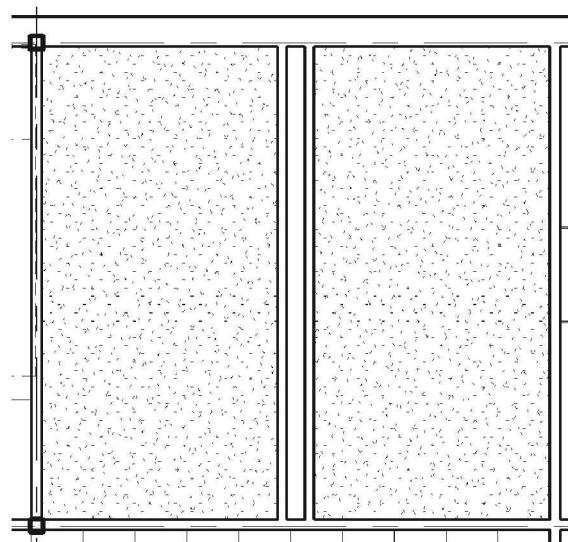

FIGURE 11-1.18 Revised Level 1 RCP
51. **Adjust** the left side of the ceiling to align with the new wall; when finished, click **Finish Ceiling** on the *Ribbon* (Figure 11-1.18).